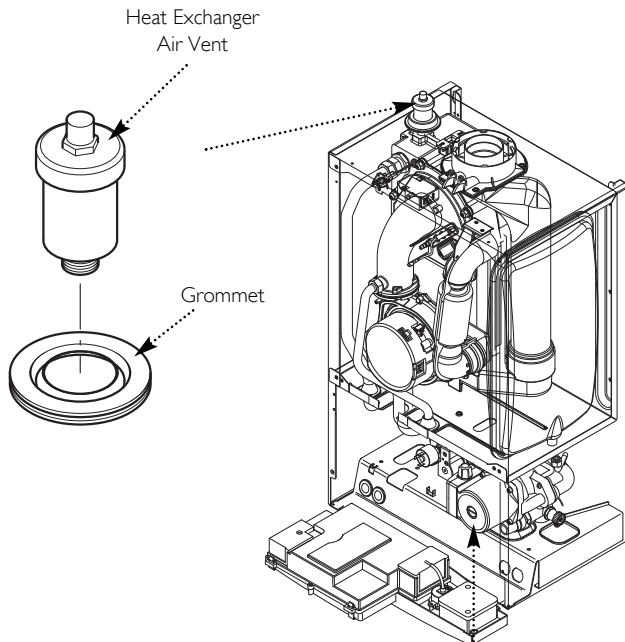

Fig. 84
14.11 Heat Exchanger Automatic Air Vent (Fig. 84)